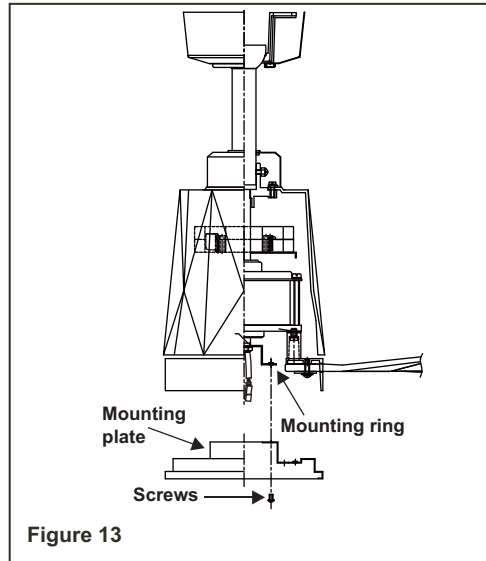

Figure 13
**Step 2.** Place the key holes in the mounting plate over the two screws previously loosened from the mounting ring. Turn the mounting plate until the decorative cover locks in place at the narrow section of the key holes. (Fig. 13)